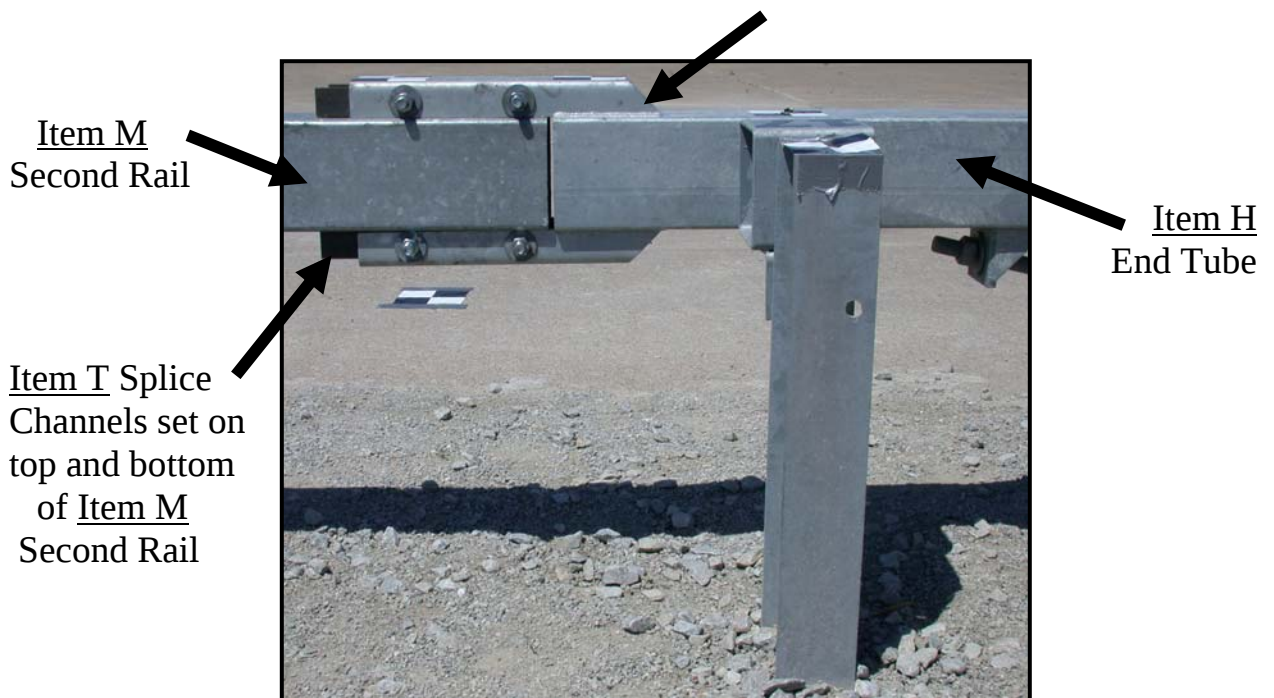

Figure 17. End Splice Channel Connection for BEAT-BP
Connect the End Rail tube (Item H) to the Second Rail tube (Item M) using End Splice Channel (Item T). This splice uses 4 each 5/8"x 2" hex bolts with (2) nuts and (2) washers at the inside of the second rail tube connection. Install this double-nutted splice section to the leading end of the Second Rail tube (Item M) prior to putting the first rail section into place. Connect the bent plates welded to the end of the End Rail tube (Item H) using 5/8"x 6" hex bolts, nuts and (2) washers. See **Figure 17** for additional details.